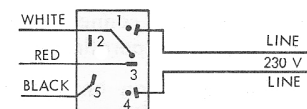

Figure 5
- For operation on 230 volts, connect one supply line to terminal No. 1; the Red motor lead (with quick connect) to terminal No. 3; the Black motor lead (with quick connect) to terminal No. 5; the White motor lead (with eyelet) to terminal No. 3; the Brown motor lead (with eyelet) is not connected, but insulated; and the other supply line to terminal No. 4. (See figure 5.)